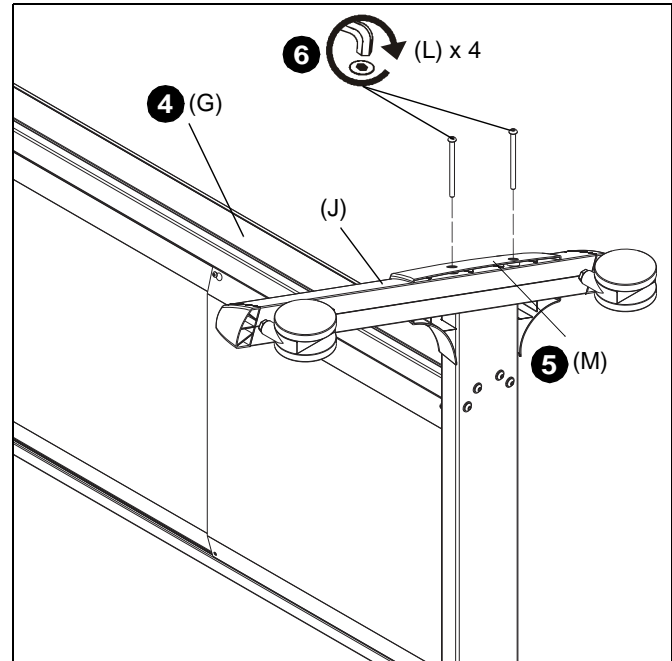

Figure 2
4. Turn column assembly (G) onto its right side. (See Figure 2)
5. Place left transition cover (M) on left cart leg (J), lining up the holes on the cover with the holes on the leg and column assembly base. (See Figure 2)
6. Use two 5/16-18 x 3 3/4" button head cap screws (L) to secure leg (J) and cover (M) to column assembly (G). (See Figure 2)